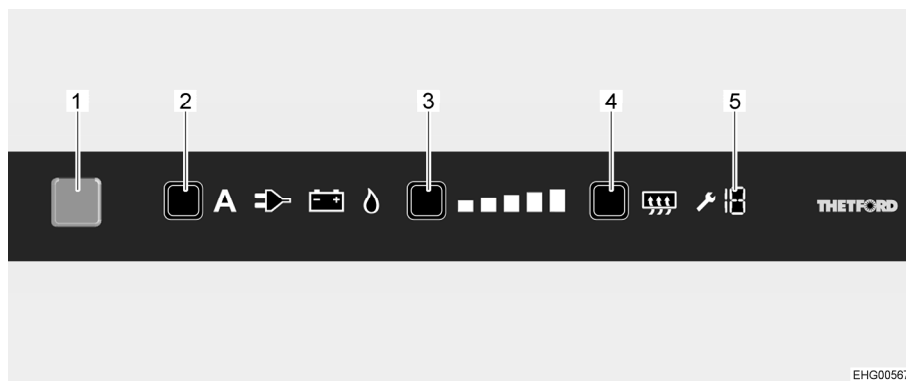

Fig. 185 LCD touchscreen
- Press and hold the On/Off button (Fig. 185,1) for 1 second. Button lights up blue. The last setting selected is displayed.
- Press the power selection button (Fig. 185,2) repeatedly until the desired energy source has been selected.
- Press the cooling level button (Fig. 185,3) repeatedly until the desired cooling level has been selected. The current cooling level is indicated by illuminated bars.
- Press and hold the On/Off button (Fig. 185,1) for about 2 seconds. All lights go out. Refrigerator is switched off.